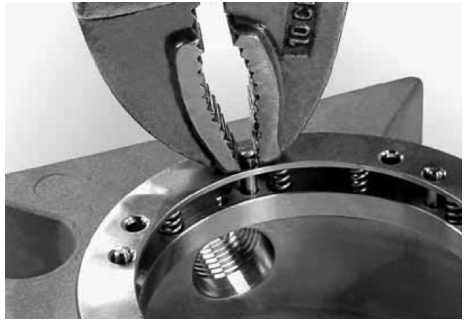

Figure 3
- 1.3 Remove the spring holder by pulling out the lock pins. See Figure 3.